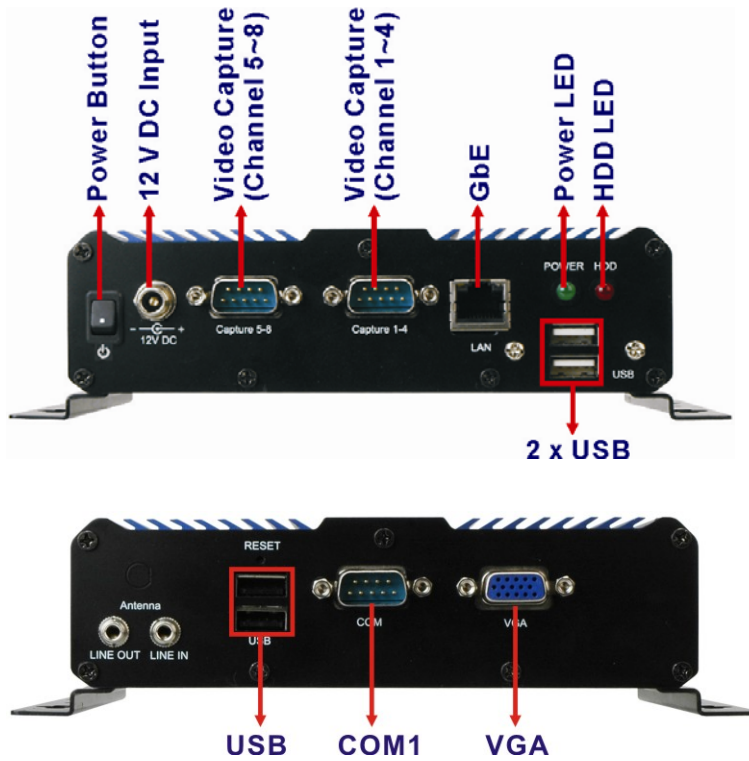

Figure 3-2: External Peripheral Interface Connector
- CN Location:** See **Figure 3-2**
CN Location: See **Figure 3-2**